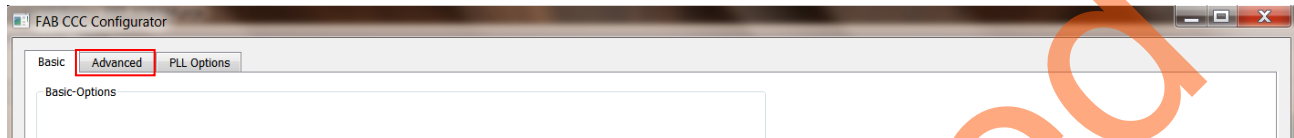

Figure 18. Advanced Tab of the FAB CCC Configurator
- Select the **Advanced** tab as shown in Figure 18.